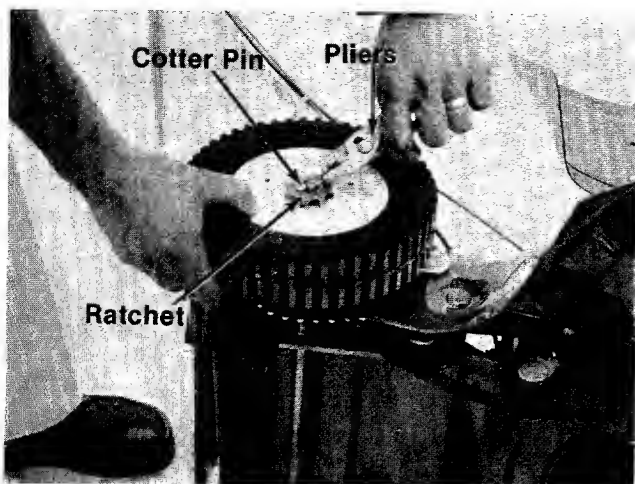

FIGURE 21.
5. Remove cotter pin and ratchet. A pair of pliers is required. See figure 21.